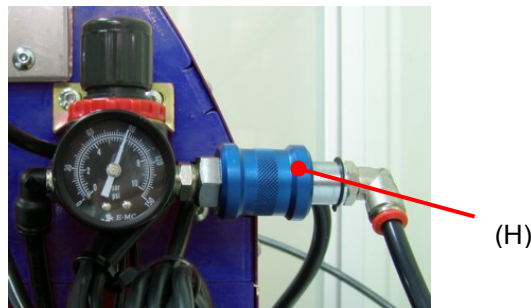
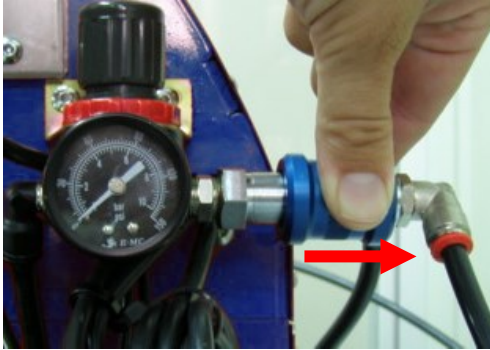
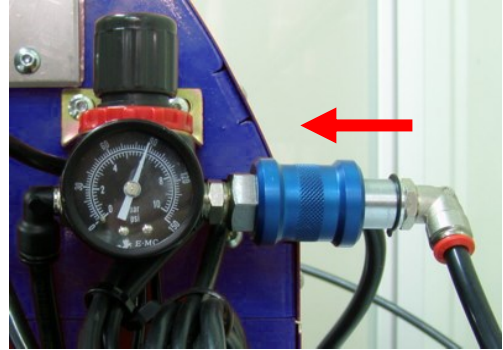

Fig. 2
Fig. 4
Fig. 5
- For the cleaning, handling or replacement of parts, the air inlet valve "H" (Fig. 2) should always be closed and the device switched off.
- The machine has a manual air inlet valve "H" (Fig. 2) for the opening and closing of the air supply of the device; when the machine is not in use, the valve should be closed (see Fig. 4) to avoid possible accidents to third parties. For reasons of safety, we also recommend the disconnection of the hose from the compressor or the air supply.
1. Check that there are sufficiently lugs in the storage container (A) and sufficient spacing disks (washers) in the storage container (C). The storage containers should be filled to 2/3 maximum.
2. Connect the power plug with the plug socket and switch on the device at the switch (G) (green lamp lights up). The brushes in the storage containers begin to rotate and, as a result, the supplies (B) + (D) are filled.
4. Connect the compressed air hose of the compressor with the connection (H) (Fig. 2) and open the air inlet valve (Fig. 5)
Caution: Close the main air-inlet valve (see Fig. 4) and set the main switch (G) to OFF (no green light) in order to change the adapter, to install optional equipment or to carry out other handling operations.